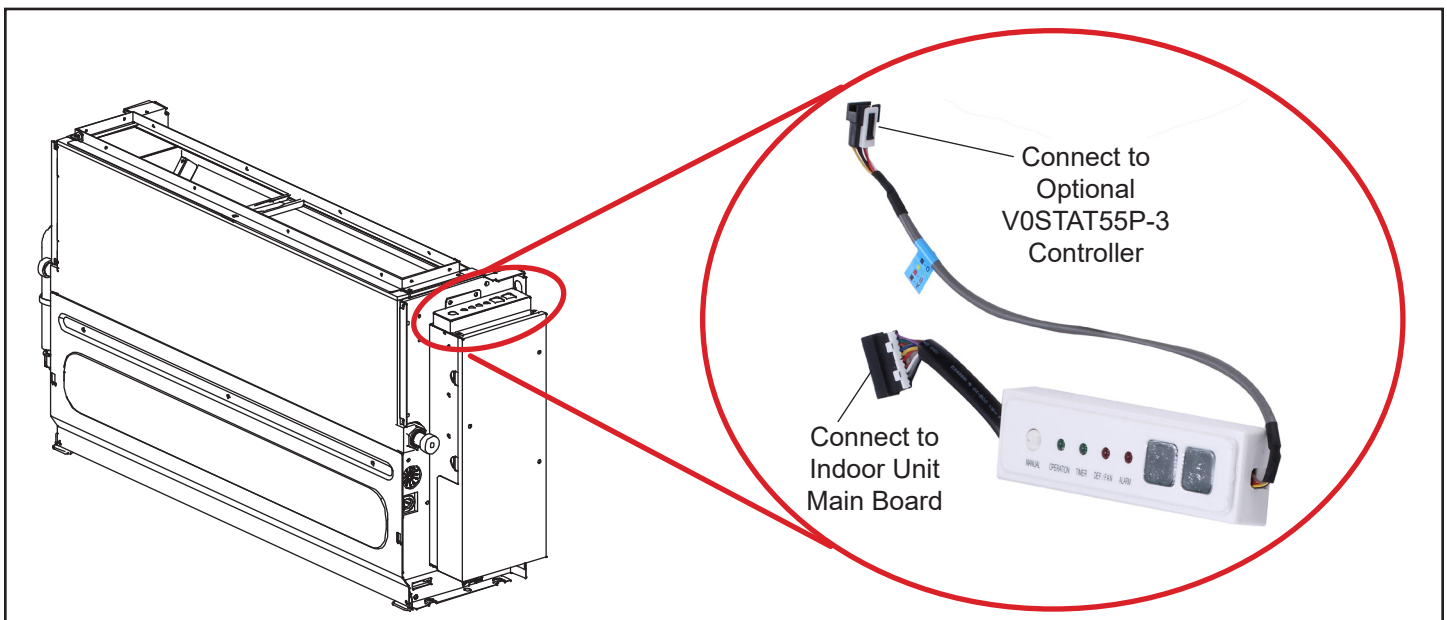

Figure 14. Install Receiver/Display
7. If the indoor unit is the final unit in a group that is wired in series, install the provided resistor across terminals P and Q. See figure 14.
The unit's Receiver/Display is field installed and connected as shown in Figure 14.